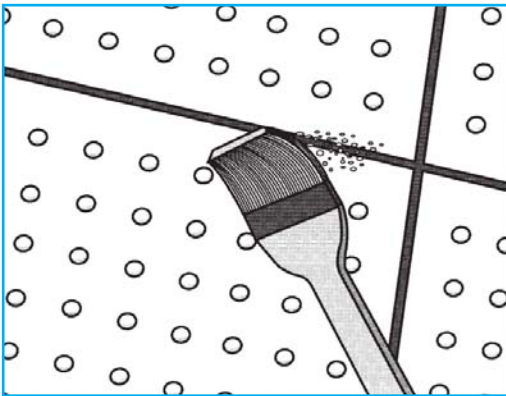

FIGURE 8 Cleaning of Joints
- Use a wet brush to clean dust from joints after fixing the boards. *[Figure 8]*